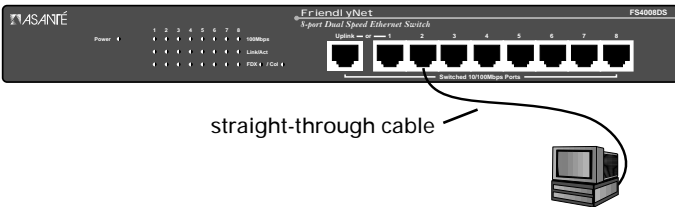

Figure 2-8 Connecting a PC to the Switch
- ❑ Connect the PC to any of the Switch's ports (1 - 4 for the FS4004DS or 1 - 8 for the FS4008DS). See Figure 2-8.